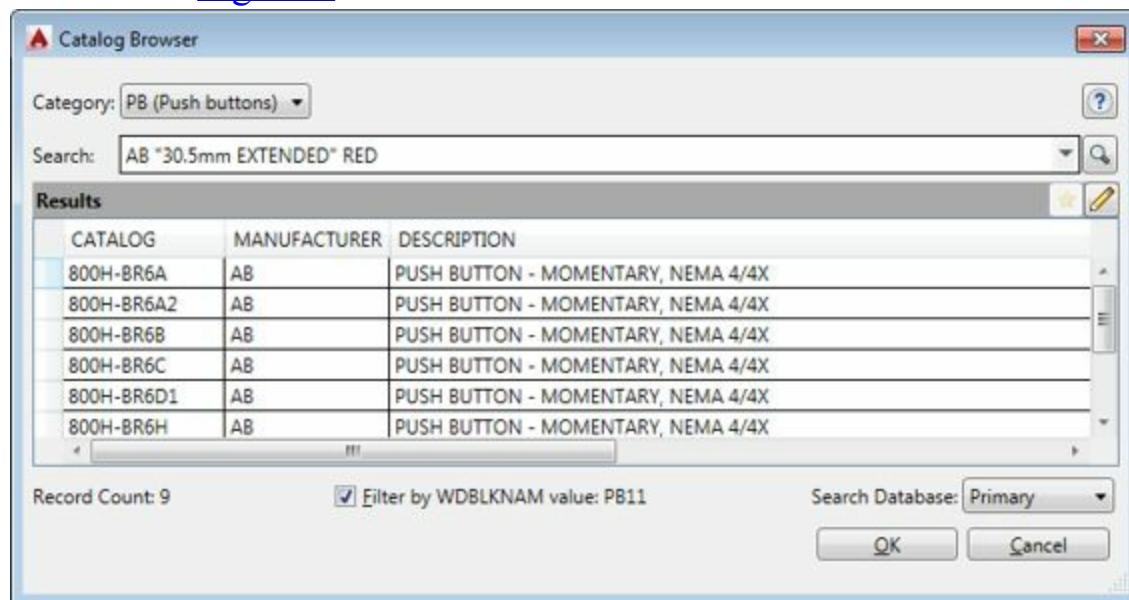

Figure-9. Catalog Browser dialog box
- Instead of specifying all the parameters related to Catalog data, you can pick the desired component's details from the library of standard components in AutoCAD Electrical. To do so, click on the **Lookup** button in this area. The **Catalog Browser** dialog box will be displayed as shown in Figure-9.